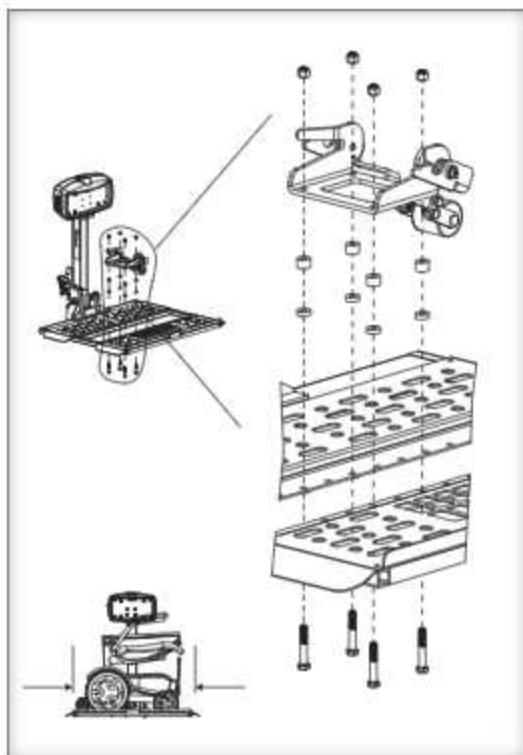

Figure 37-1
3. Reassemble Dock 'N' Lock. Select the holes that will center the chair width-wise onto the platform. Use spacers as required to match the height of the plow on the chair. [Figure 37-1]